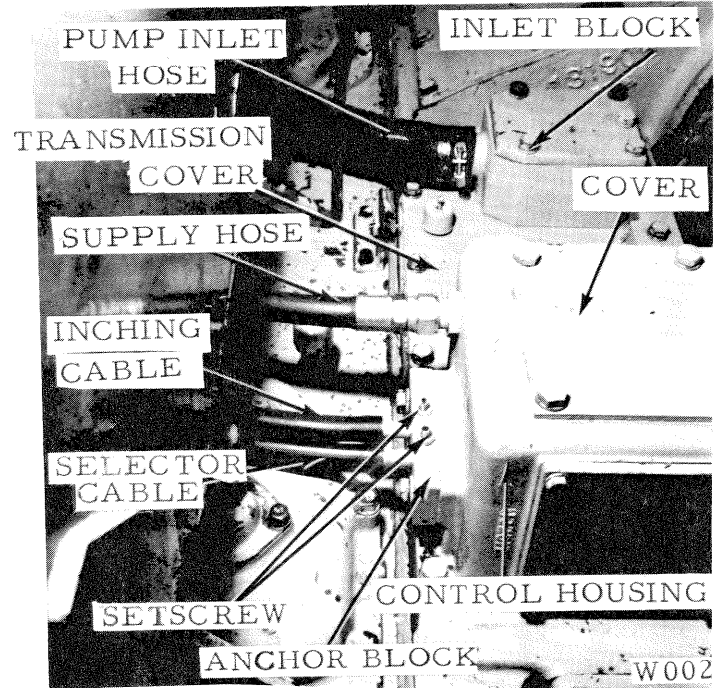
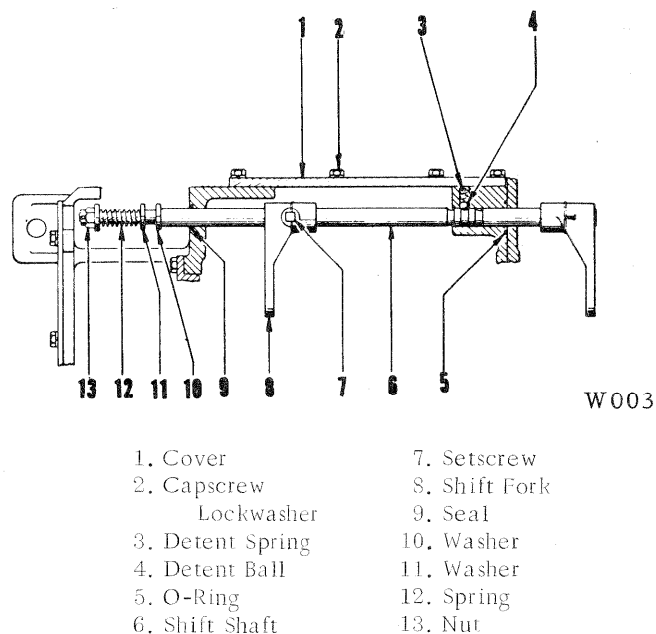
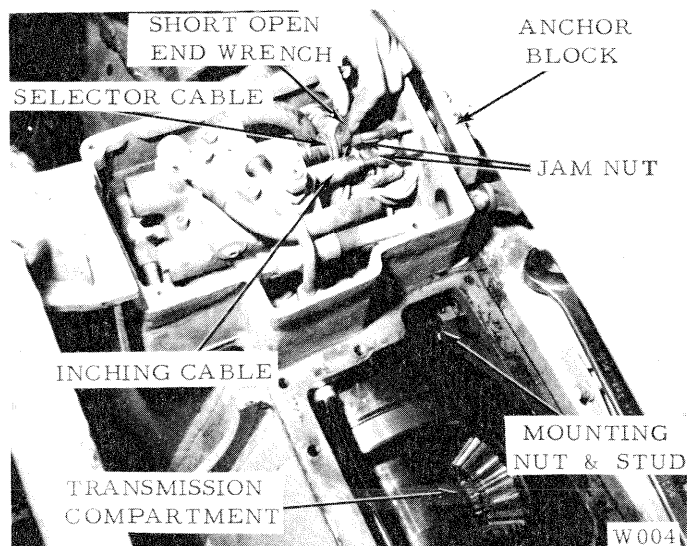
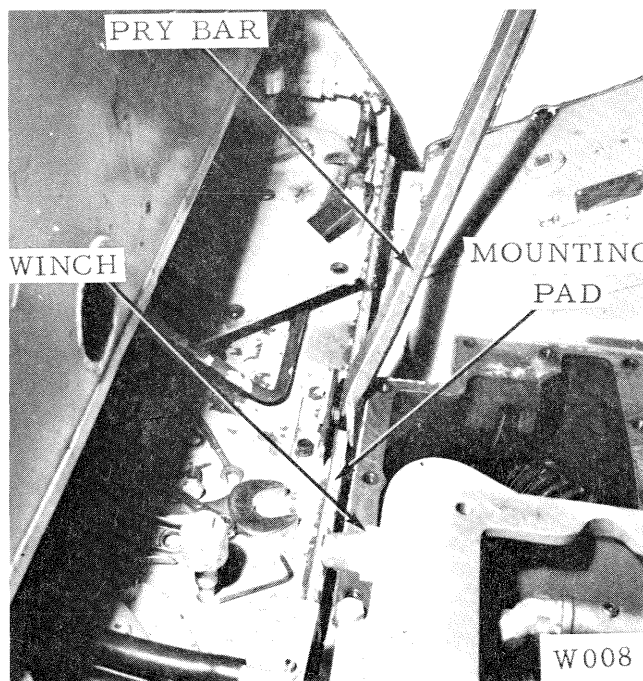

Figure 2
Figure 3
Figure 4
Figure 8
1. Disconnect the power control hoses from the inlet block and control valve housing. Fig. 2.
2. Remove: the transmission cover; the side frame cover, if the winch is to be disassembled; the top cover of the control housing on the power control winch, fig. 2, (the side cover of the control housing on the standard winch); the detent spring and ball, fig. 3, from the standard winch.
a. Either unscrew the cable setscrews, fig. 2, or separate the cable anchor block from the control housing of the power control winch. Loosen the jam nut securing the cable and valve spool relationship. Using a short open end wrench, turn each valve clockwise until it is disconnected from the cable. Fig. 4.
5. Unscrew all outside mounting nuts. Unscrew the mounting nut located in the transmission case, fig. 4, as far as possible. Pry the winch away from its mounting pad on the tractor. Fig. 8. Unscrew the inside nut some more.